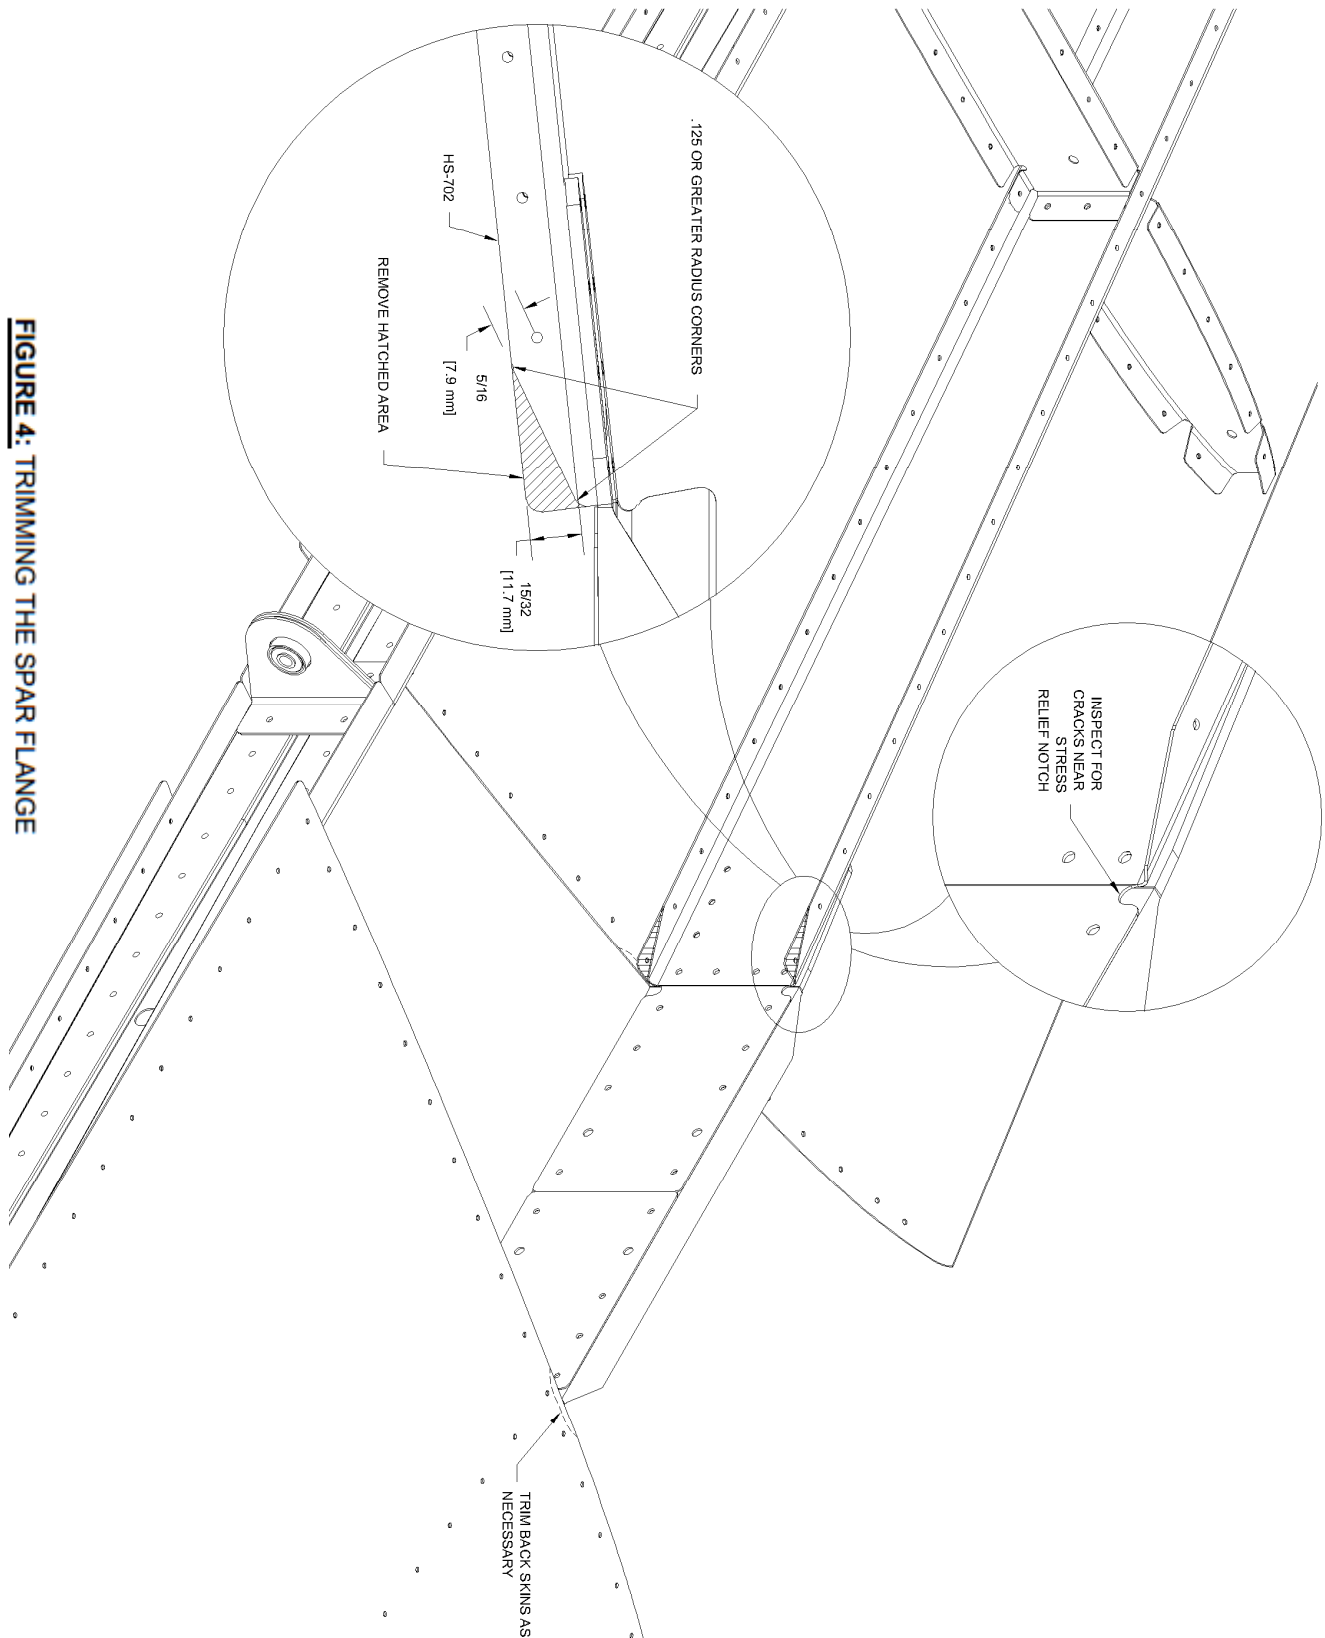

FIGURE 4: TRIMMING THE SPAR FLANGE
Step 10: Trim the upper and lower inboard flanges of the Front Spar per the dimensions shown in Figure 4. (Insert a piece of stainless steel sheet scrap between the skin and the flange of the front spar to protect the skin from damage while trimming.) Radius and deburr as well as possible, the cut edge of the spar flange. We have obtained good results using a Dremel™ style tool with a thin abrasive cutting disk, to make the cut.